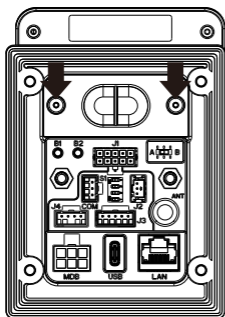

Fig.1
**Step 3:** Unscrew 2 screws and open the SIM card cover(Fig.1).